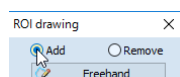

Figure 259 – Set Add/Remove mode for contour editing
2. Select the adding contour mode (see Figure 259). To add a drawn contour to the ROI, check the **Add** radio button. To remove a drawn contour from the ROI, check the **Remove** radio button.